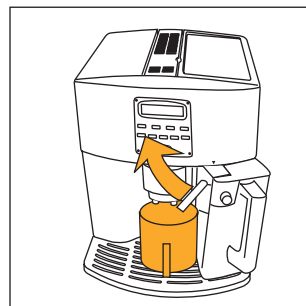

Fig.23
- Position the milk tube as shown in fig. 23 and then place a sufficiently large cup under the coffee and milk spouts (fig. 23).
- Place a sufficiently large cup under the milk spout (fig. 23).